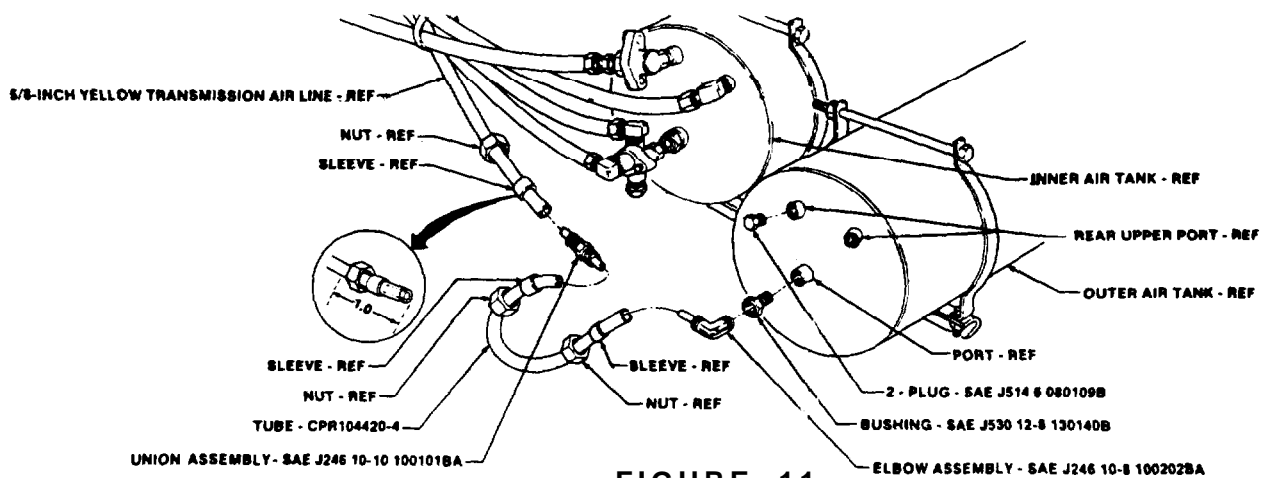

FIGURE 11
(11) Install two SAE J514 6080109B plugs in rear upper ports on outer air tank as shown in figure 11.
(12) Install SAE J530 12-8 130140B bushing in port on rear of outer air tank as shown in figure 11.
(13) Install SAE J246 10-8 100202BA elbow assembly in bushing on outer air tank as shown in figure 11. Retain sleeve and nut for use in step 17.
(14) Cut off one inch of existing 5/8-inch yellow transmission airline as shown in figure 11, and discard fitting.
(15) Install SAE 1246 10-10100101BA union assembly on 5/8-inch yellow transmission airline and secure with sleeve and nut as shown in figure 11. Retain sleeve and nut for use in step 16.
(16) Install CPR104420-4 tube on union and secure with sleeve and nut as shown in figure 11.
(17) Route tube to elbow in rear of outer tank, cut tube, and secure to elbow with nut and sleeve as shown in figures 11 and 12. Sleeve and nut retained from step (13).